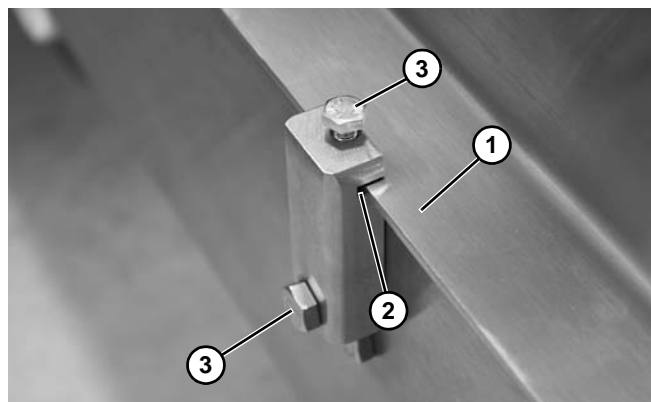

Figure 30
3. Install guide (Figure 30, item 1) into the slot (Figure 30, item 2) of the mounting block and tighten screws (Figure 30, item 3).